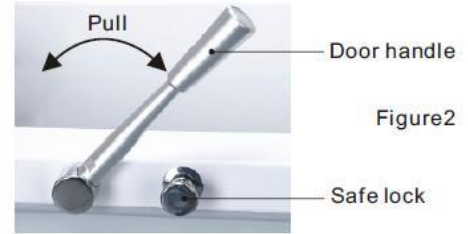

Figure 2
- If your tub door has the locking system like figure 2, please follow the instructions below to open and close it.
- Hold the door handle and pull it towards hinge (figure 2)